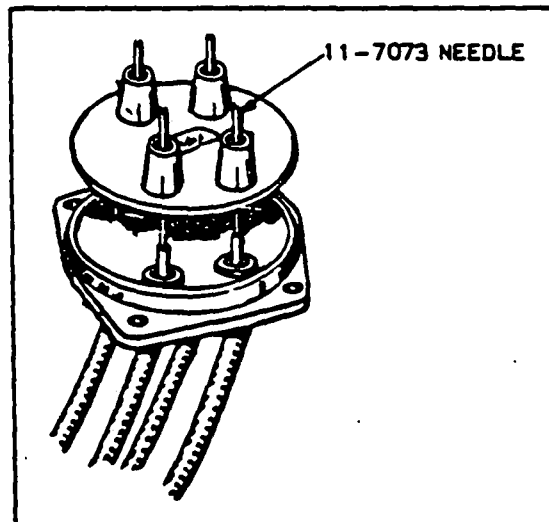
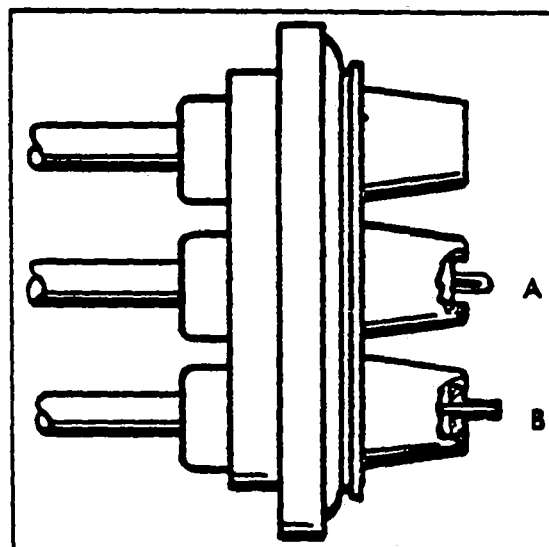

Figure 8-24. Installing Grommet Over Lead Assemblies
Figure 8-26. Wire Doubled Over For Installation of Eyelet
met and over stripped end of wire. (Refer to Figure 8-24.) Slide grommet down needle until it seats tightly against the tapered ferrule.
14. Cut wire  $\frac{3}{8}$  inch from top of grommet outlet. (See Figure 8-24.) Double wire over as shown in A of Figure 8-26. Slide eyelet over doubled wire until it is firmly seated in recess of grommet outlet.
15. Using the "AB" groove of Scintilla 11-4152 Crimping Tool, or equivalent, crimp eyelet to wire. Approximately 1/32" of wire should extend from end of eyelet after crimping. See B of Figure 8-26.